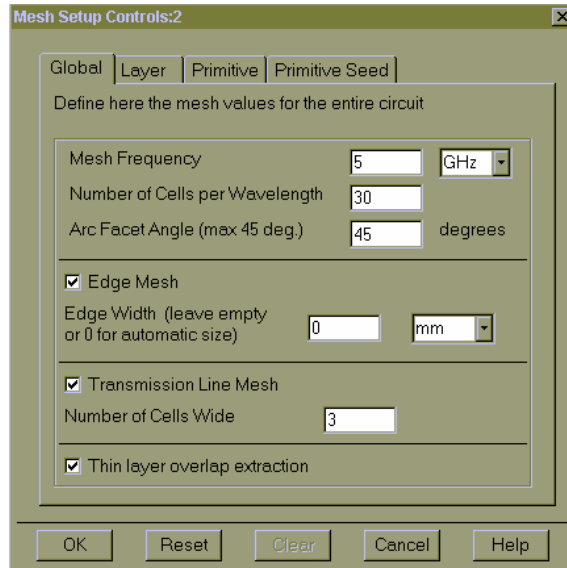

Figure 10. Mesh definition used in the Momentum simulation.
- h) Select Momentum>Mesh>Setup controls. Enter the parameters shown in Figure 10.